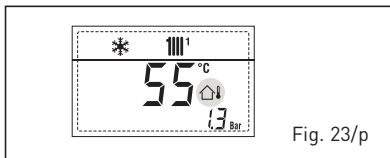

Fig. 23/p
- **SAFETY THERMOSTAT INTERVENTION FIRST MIXED ZONE "ALL 20" (fig. 23/q)**